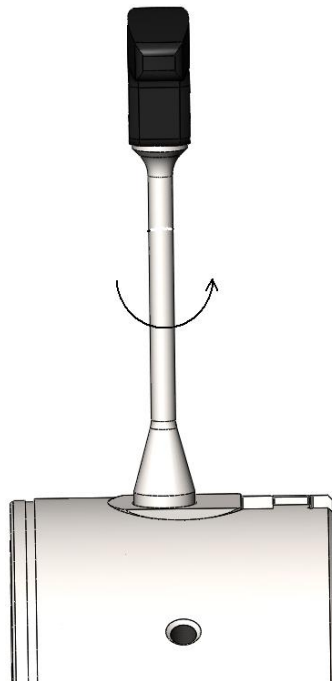

Fig. 14. Releasing the locking mechanism
- push the key as far as it will go and turn it by 90° to the left (counter-clockwise) to release the jaw locking mechanism and allow it to be inserted into the guide rails, fig. 14.